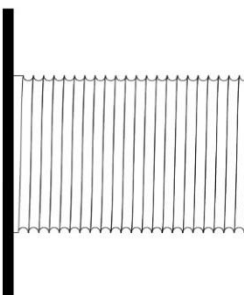

Fig 2
2. Winch with Grooved drum (fig 2)